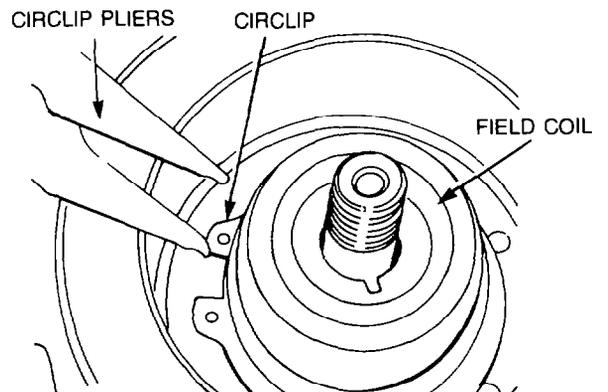

Figure 23 — Field Coil — Removal
- g. Disconnect the coil lead from the connector on the top of the compressor front housing, then using suitable circlip pliers, remove the circlip retaining the field coil to the shaft. Remove the field coil (see Fig. 23).